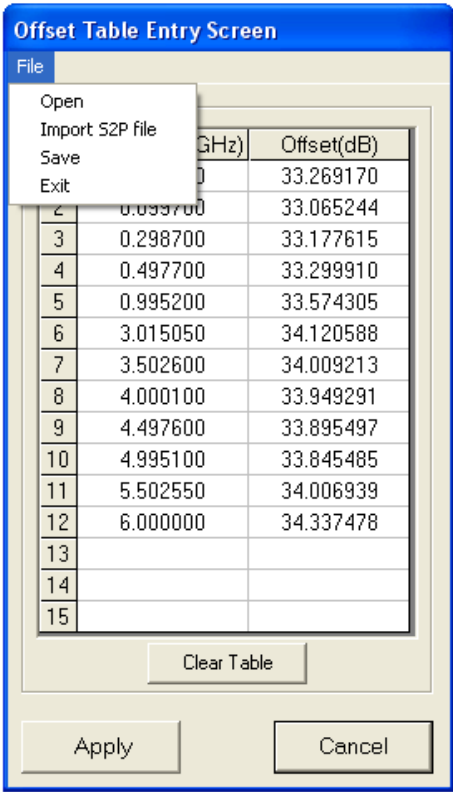

Figure 3-14. Offset Entry Screen
- 2. In the resulting dialog (Figure 3-14), enter the frequency response of the RF device manually or by importing an S2P file used to measure the DUT. The example below is of a 10 dB attenuator where the values were manually entered.